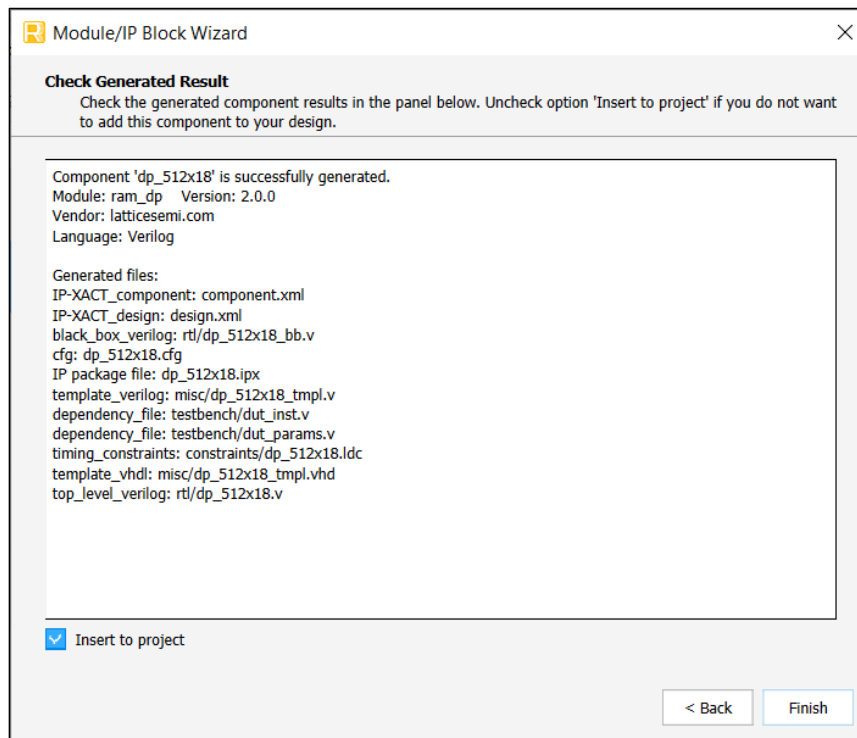

Figure 3.4. Example: Generating RAM_DP Check Generated Result
- When all the options are set, click **Generate**. The **Check Generated Result** dialog box opens, showing design block messages and results as shown in Figure 3.4.